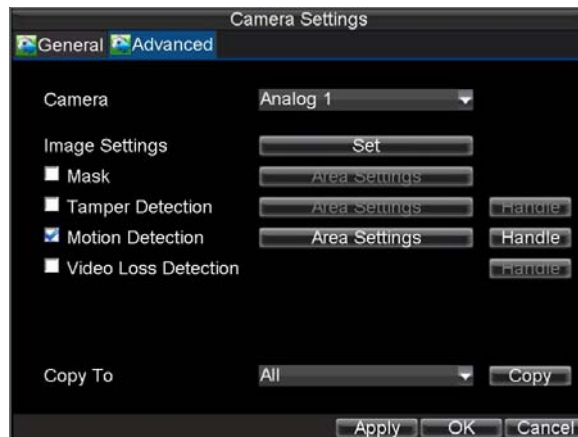

Figure2. Advanced Camera Settings
2. Select the **Advanced tab to enter the Advanced Camera Settings menu, shown in Figure 2.**